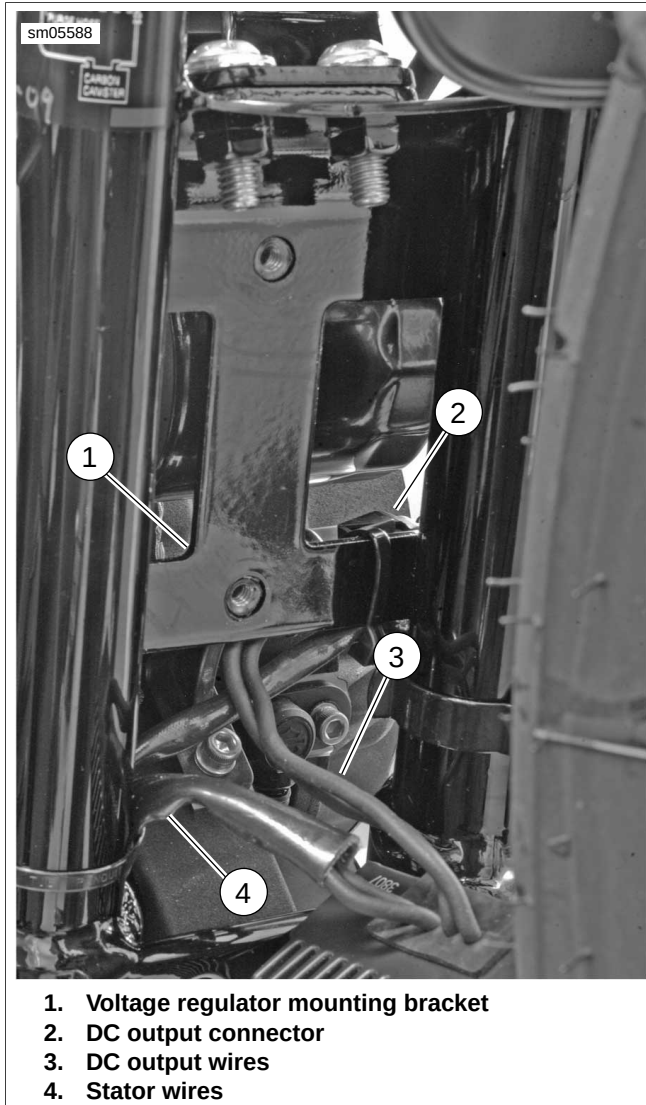

Figure 6-12. Voltage Regulator Wire Routing: XR Models
1. See Figure 6-12. Position voltage regulator close to mounting bracket (1). Orient regulator so cooling fins face forward and wiring harnesses exit regulator body toward right side of vehicle.
2. Thread DC output wires below mounting bracket . Route DC output connector (2) toward left side of vehicle.
3. Route stator wires (4) down along between right frame downtube and body of voltage regulator. Route stator harness connector [46A] toward right side of vehicle.